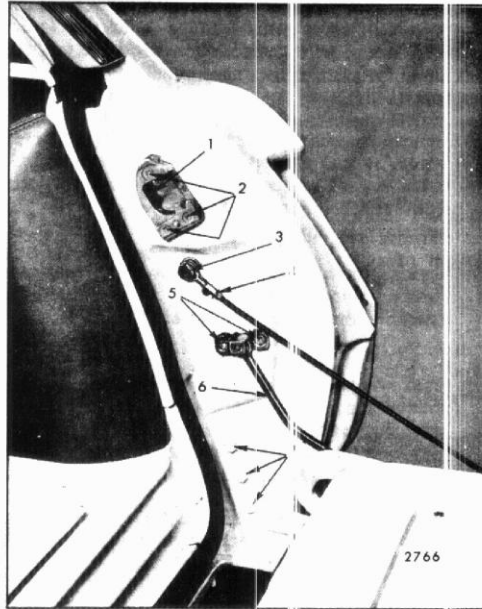

Fig. 9-46-Tail Gate Torque Rod, Hinge and Support Attachments
2. Remove tail gate hinge attaching bolts from both gate and body (Figs. 9-46 and 9-47).
2. Remove bolts securing support to tail gate and body lock pillar. Disengage support return spring (at body lock pillar or tail gate end) and remove support (Figs. 9-46 and 9-47).
3. While properly supporting tail gate, remove right and left support cable attaching bolts (See Figs. 9-46 and 9-47).